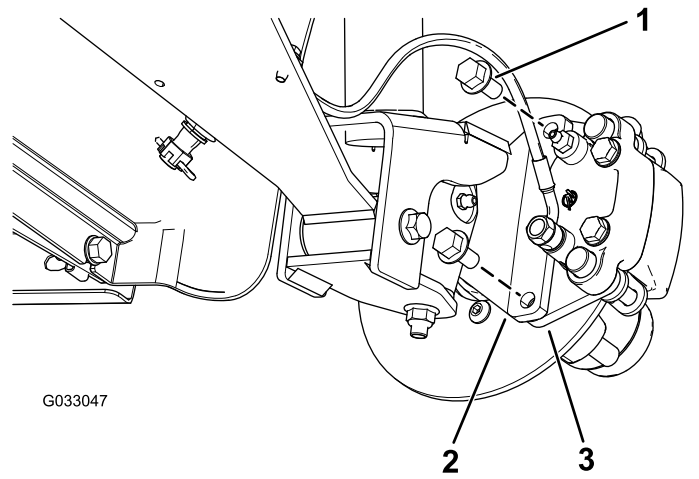

**Figure 31**
2. Remove the 4 lug nuts that secure the wheel to the hub (Figure 31).
4. Align the holes in the wheel to the studs of the hub and assemble the wheel to the hub with the valve stem outward (Figure 31).
5. Secure the wheel to the hub using the lug nuts (Figure 31).